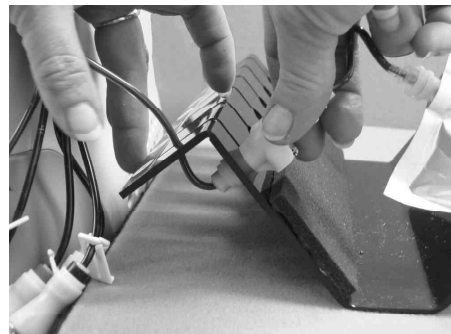

Fig. 4
- b. Slide the tubing into the slot and place the female connector firmly into the round opening. See Fig. 4.